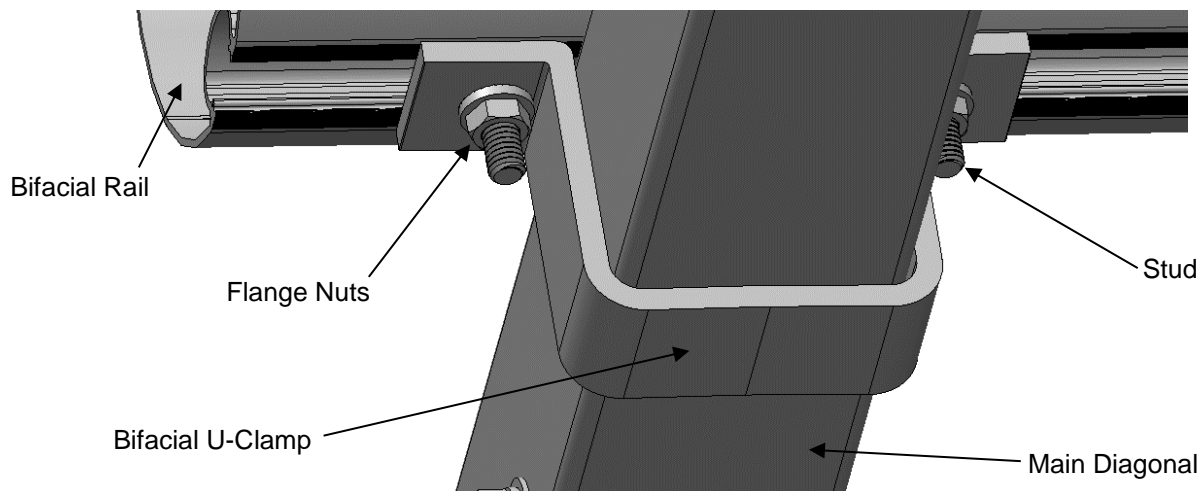

Figure 11: Bifacial U-Bracket & Rail Assembly
- c. Pick the bifacial rail up, rotate the rail & place the studs on either side of the A-Frame so that they are 90 degrees to the A-Frame Main Diagonal. Place the U-Bracket under the A-Frame Main Diagonal and on to the channel nut studs (Figure 11).